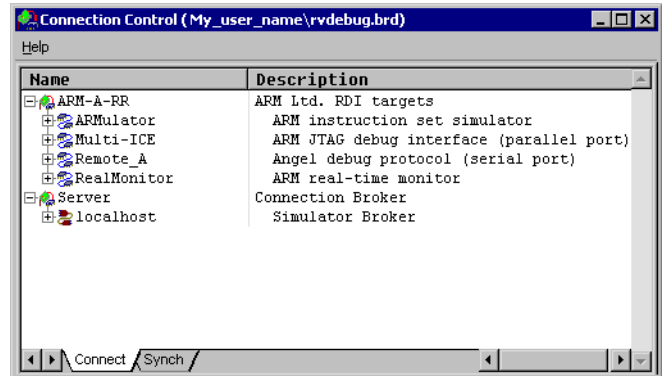

Figure 3-20 RealMonitor in the Connection Control window
2. Select **Target** → **Connect to Target...** to display the Connection Control window, shown in Figure 3-20 on page 3-35.